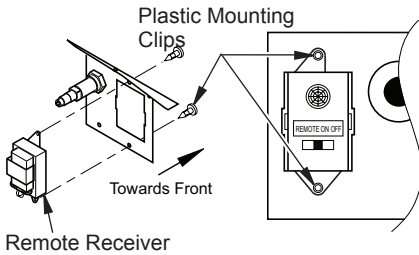

Figure 16 - Mounting Remote Receiver to Bracket
6. Use clips to mount receiver on remote mounting bracket as shown in Figure 16.